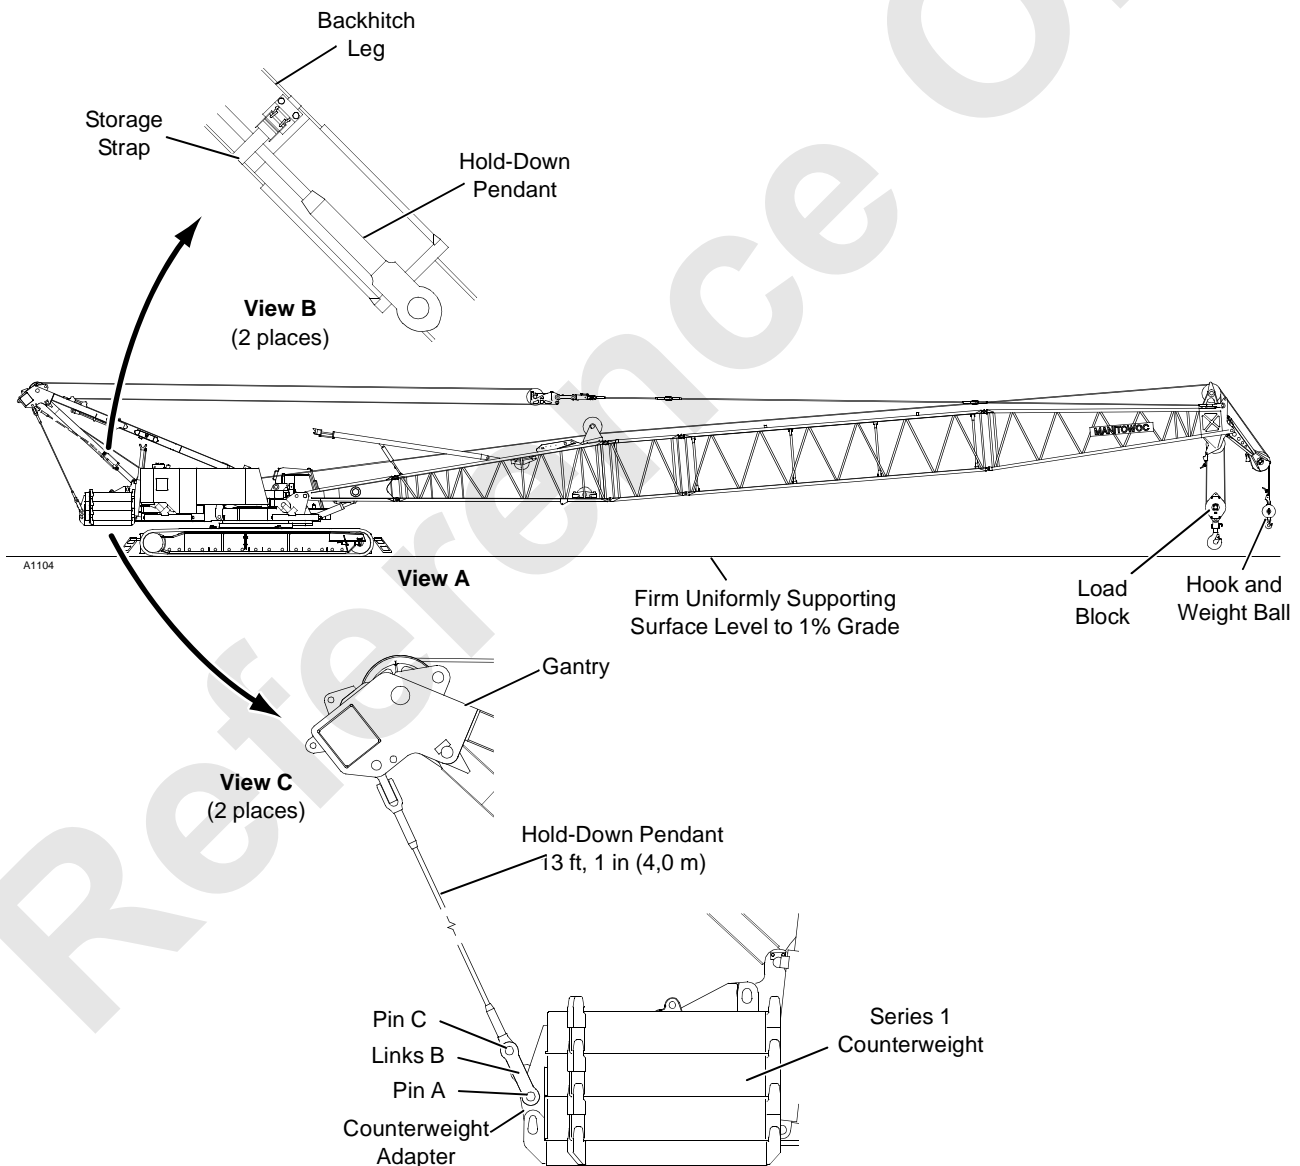

FIGURE 4-51
- See Figure 4-51 for boom length and suspended weight limitations.
3. Reduce boom to desired length listed in Figure 4-51.
5. Perform following steps on both sides of gantry (see Figure 4-51):
- a. Using pin (A), pin links (B) to counterweight adapter (View C).
- c. Using pin (C), pin hold-down pendant to links (B, View C).
- c. Attach pin (C) in links (B).
- d. If desired, leave links (B) and pins (A and C) attached to counterweight adapter for storage. Otherwise, remove links and pins and store them in a safe location for future use.